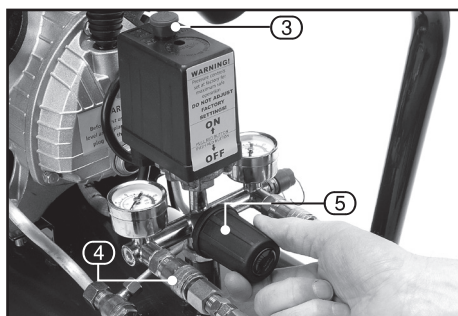

FIG.3
8.2 INITIAL STARTUP – FIG.3
- Insert a euro connector into the air outlet connector (4) and open the regulator fully.
- Turn the compressor on by pulling the pressure switch On/Off (3) button up.
- Turn the pressure regulator dial (5) fully counter-clockwise allowing pressure to build up. Once the maximum pressure is reached, the pressure switch will automatically turn the machine off.